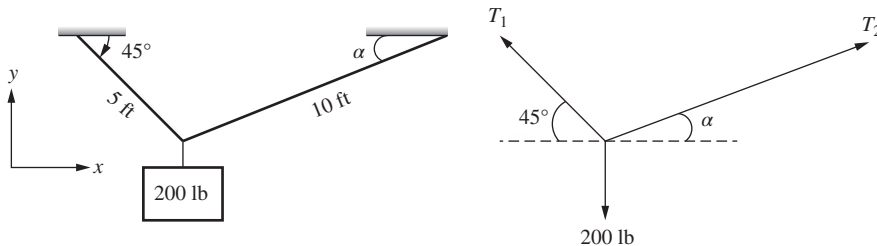

Figure P4.30 A weight suspended from two cables for problem P4-30.
- 4-30.** A 200 lb weight is suspended by two cables as shown in Fig. P4.30.